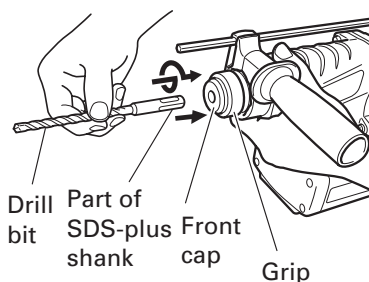
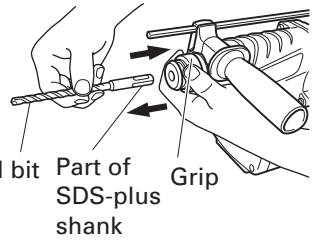

Fig. 7
Fig. 8
- (1) Turn the grip of the side handle to loosen it and push it in until it comes in contact with the housing.
- (2) Adjust the side handle to the angle that allows the easiest use, then turn the side handle's grip firmly to lock it place.
3. Mounting the drill bit (Fig. 7)
- (1) Clean the shank portion of the drill bit.
- (2) Insert the drill bit in a twisting manner into the tool holder until it latches itself. (Fig. 7)
- (3) Check the latching by pulling on the drill bit.
- (4) To remove the drill bit, fully pull the grip in the direction of the arrow and pull out the drill bit. (Fig. 8)